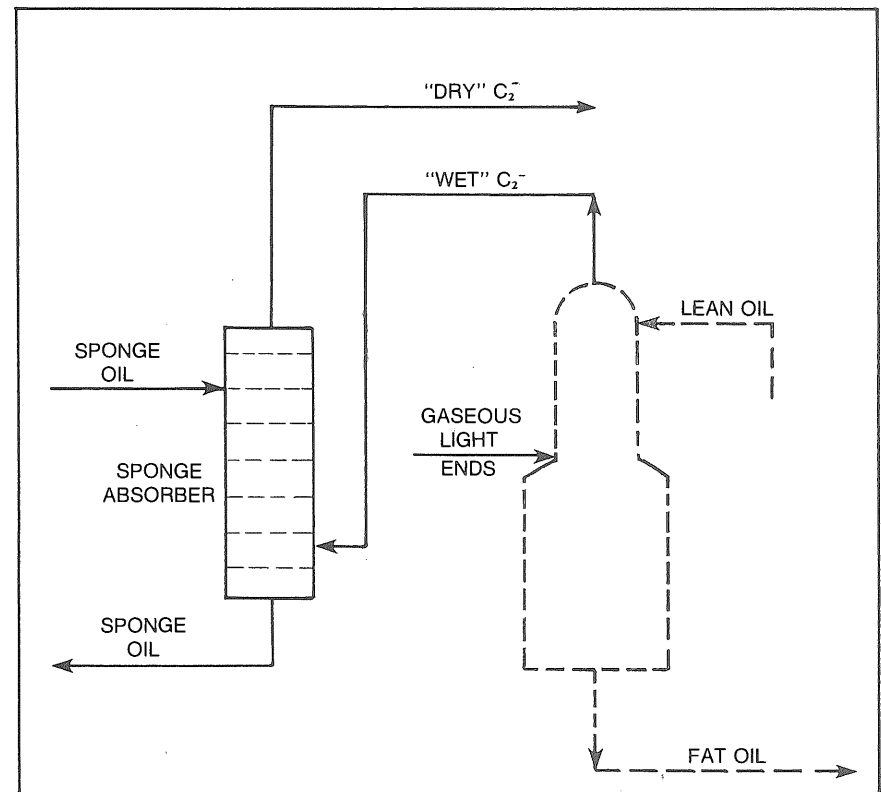

Fig. 7-4 —Sponge Absorption
7. *Sponge absorption.* One complication occurs when the lean oil is introduced to the rectified absorber. Some of the lean oil, usually heptane (C7H16) or octane (C8H18), vaporizes and goes out the overhead with the ethane and lighter (C2-). To recover the lean oil, the overhead is charged to the bottom of another absorber column and another heavier lean oil, called *sponge oil*, charged to the top. The overhead is almost all C2-, the bottoms almost all lean oil as shown in Fig. 7-4.